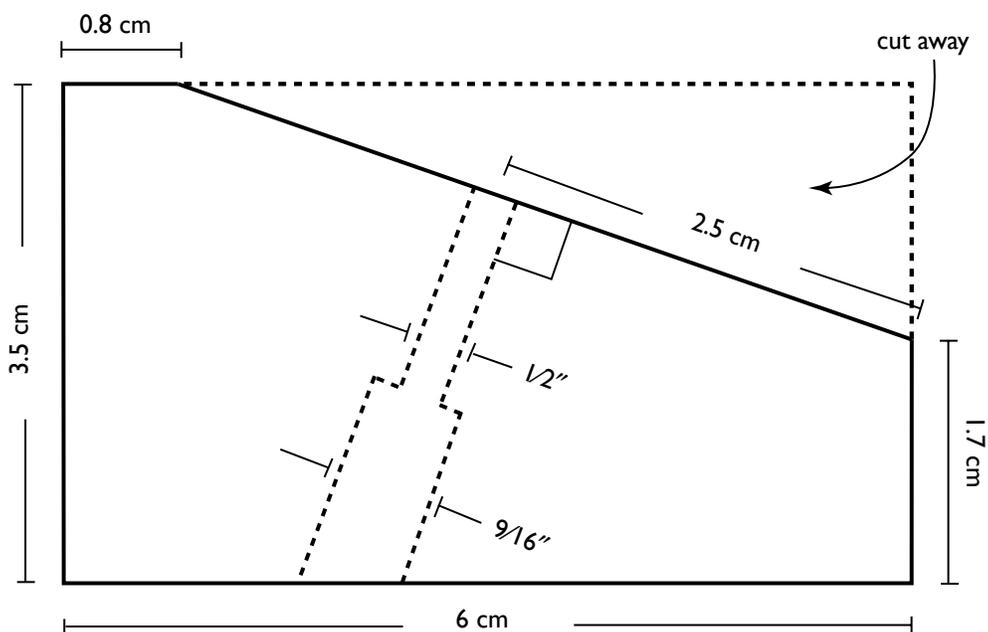

Figure 3. Cutting and drilling the wood block.
- Cut a wedge from the top of the wood block as shown in Figure 3.